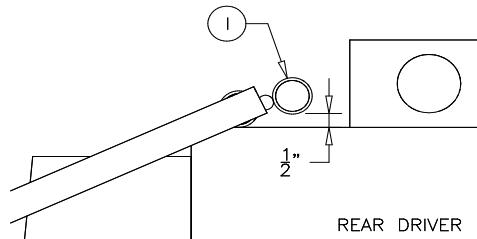

Figure 17
Rotate the rear pivot arm crossmember so that the crossmember guides (I) are approximately 1/2" above the top of the box. Using a 5/16" drill bit, drill through the pivot arm crossmember and top pivot arm (G). Secure the pivot arm crossmember to the top pivot arms with the 5/16"x1-3/4" hex bolts (H) and 5/16" nylon lock nuts provided (see Figure 17/18).